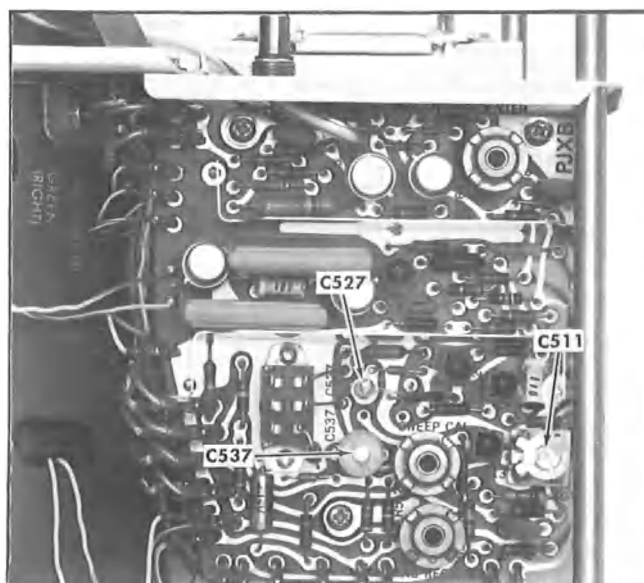

Fig. 5-27. Location of high-speed timing adjustments (Horizontal Amplifier board).
d. ADJUST—C537 (see Fig. 5-27) for one marker each division (use low-capacitance screwdriver).
e. ADJUST—C511 (see Fig. 5-27) for one marker each division (use low-capacitance screwdriver).
h. ADJUST—C527 (see Fig. 5-27) for one marker each division (use low-capacitance screwdriver).